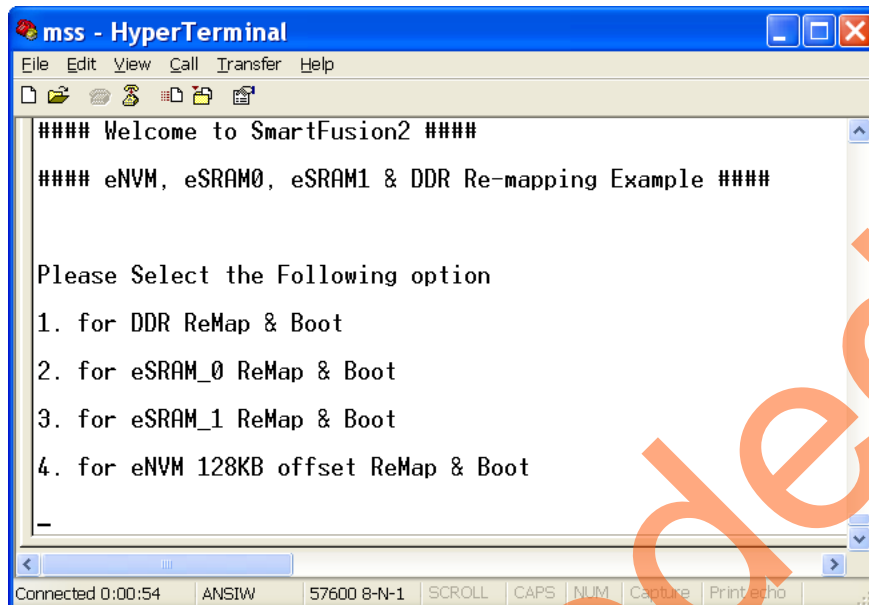

Figure 17 • Main Menu of the Re-Mapping Application Note
7. Figure 17 shows the serial Terminal: